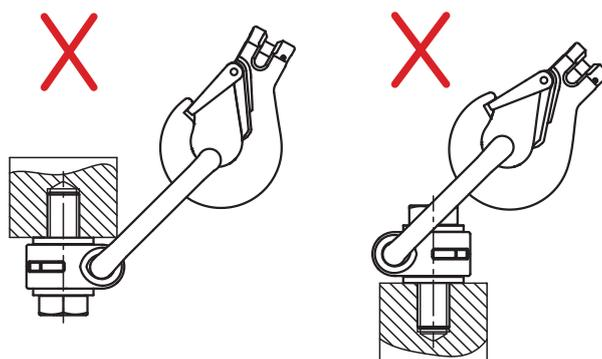

Figure 3
- the link is always free to move within its limits and does not jam up, it should be able to swivel through 90° and rotate through 360° (Figure 3).
- The anchor points must be attached to the load in such a way that the sling is not diverted by other structural parts. It must be ensured that possible damage to the sling from structural parts, e.g. sharp edges, is excluded. (Figure 3)